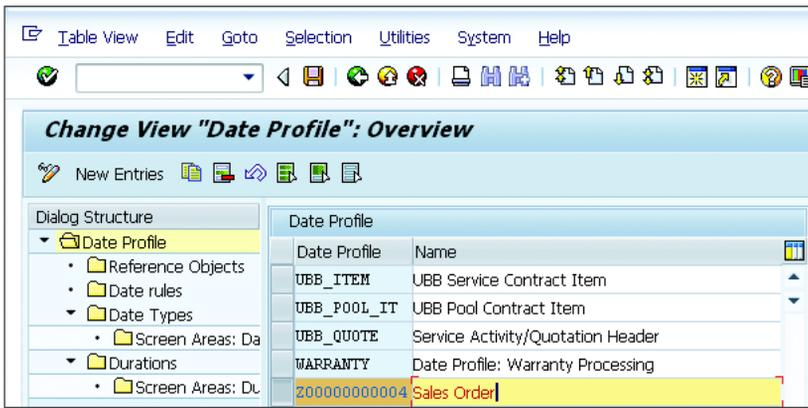

Figure 4.69 Date Profile
1. To create the date profile as shown in Figure 4.69, navigate to the menu path, SPRO • CRM • BASIC FUNCTIONS • DATE MANAGEMENT • DEFINE DATE PROFILE.